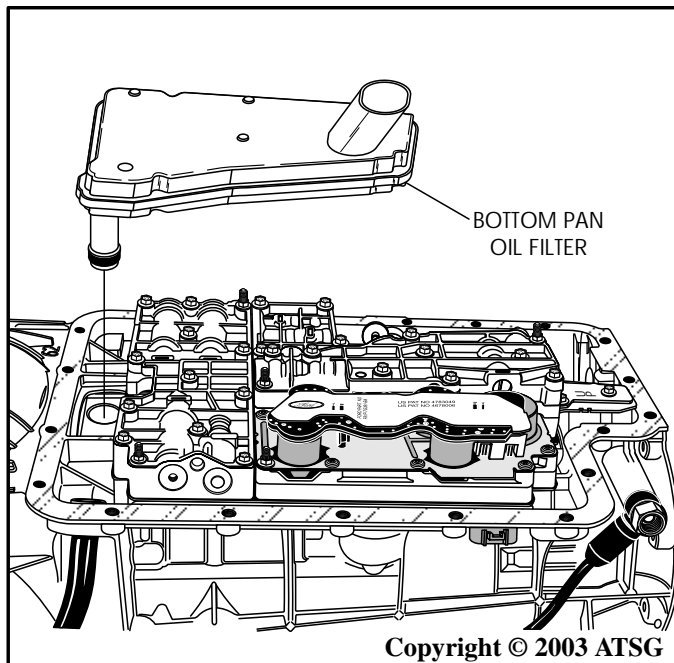

Figure 48
2. Remove the bottom pan oil filter, as shown in Figure 48, by prying up with screwdriver.